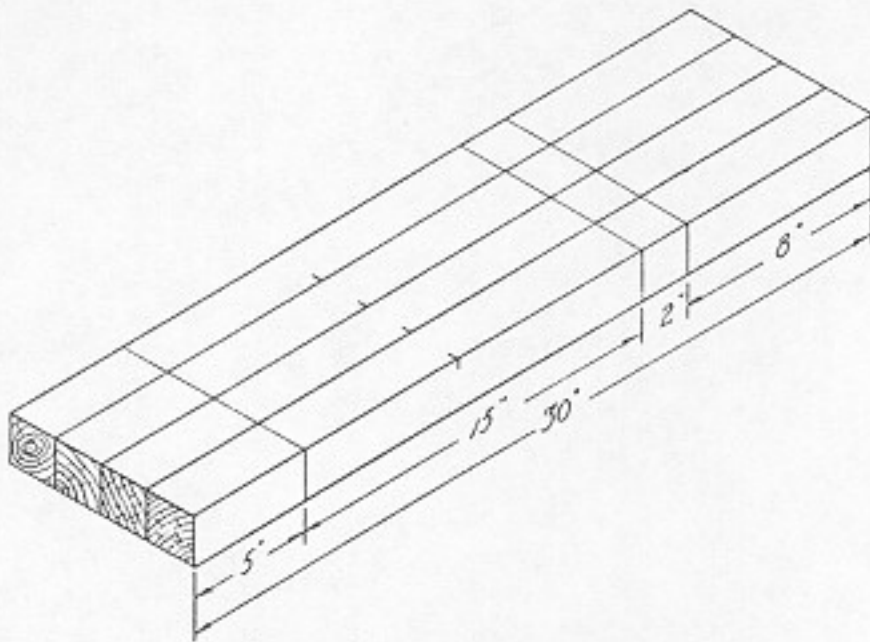

Fig. 124. Laying out duplicate parts.
9. The legs are placed side by side so that the lines just marked coincide. The length is measured, and a line is squared simultaneously across all the legs at this point (Laying-Out Operation 22 and Fig. 124).
2. The legs are placed side by side so that the ends are flush. The part to be tapered is measured, and a line is squared across all the legs at this point (Fig. 124).